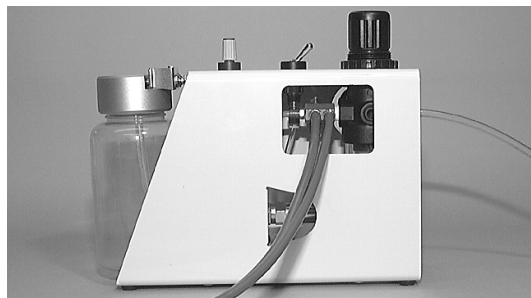

Fig.3
Install the hose of the foot pedal to the foot switch connector ⑫ at the back of the unit. At this time, insert the end of the hose with a seal 1 into the portion as the indication (at the back of the unit). After inserting both hoses, pull the inner ring toward you to lock. (Fig. 3)